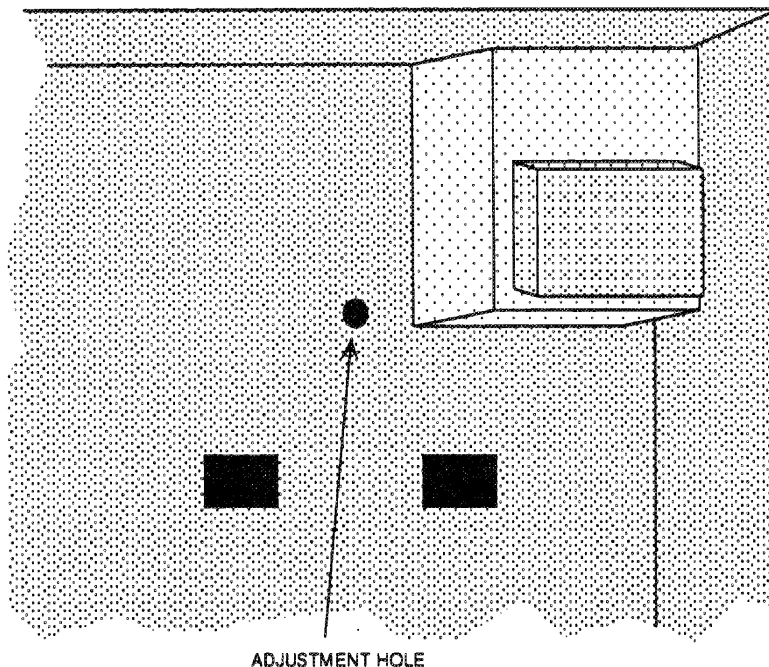

Figure 33 L3, the coarse width control, is located below the alignment pots and has to be tuned from the back side of the board.
22. Boot MacWorks or MacWorks Plus. Measure the screen size. Don't be surprised if you have to turn both controls fully counterclockwise (to approximately 8 o'clock). The final raster should measure exactly 8.44 inches in width and 5.99 inches in height. If it's substantially larger than that, shut down the Lisa /XL and remove the power cord . Pull the card cage, observe the metal chassis and find the L3 (coarse width) access hole. As shown in Figure 33, L3 is located below the alignment pots and has to be tuned from the back side of the board. Insert a plastic hexagonal alignment tool through the access hole and turn L3 counterclockwise (in), one full turn. That should do it. Reinstall the card cage, reboot, and repeat the HEIGHT and WIDTH adjustments for best linearity.